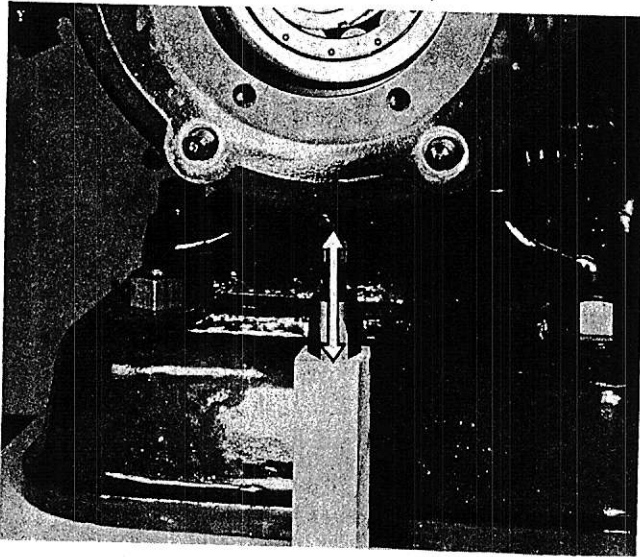
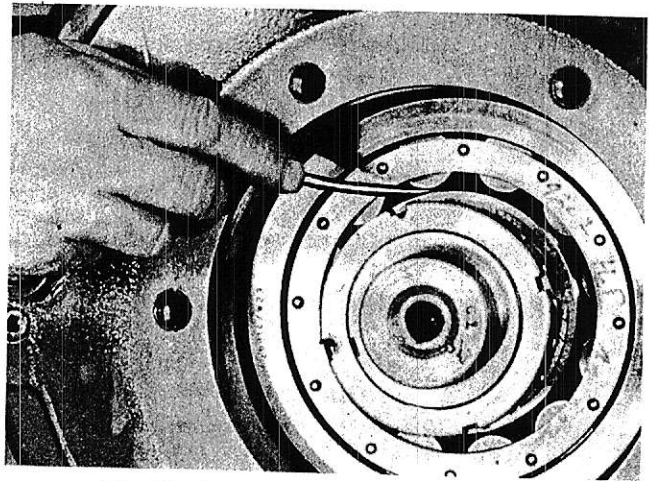

Fig. 24 Lift or jack cylinder head to remove clearance between bottom two bearing rollers and inner race.
Fig. 25 Equalize clearance between corresponding rollers on either side of inner race by positioning cylinder heads on studs.
- Jack, or lift with hoist, each head vertically till all clearance is removed between bottom two rollers and bearing races. See Fig. 24. Centralize remaining rollers by shifting head radially from side to side, so that clearance between corresponding rollers on either side of vertical centerline are equal. Check roller clearance with "feelers" as shown in Fig. 25. Tighten all cylinder head stud nuts firmly.
- Cover exposed bearings with cloths and drill (2) 1/4" diameter holes (180° apart) 5/8" to 3/4" deep into cylinder using "lead" holes in cylinder head. Redrill these holes to 1/64" less than dowel pin diameter and hand ream to size. Blow out cuttings and remove covers.